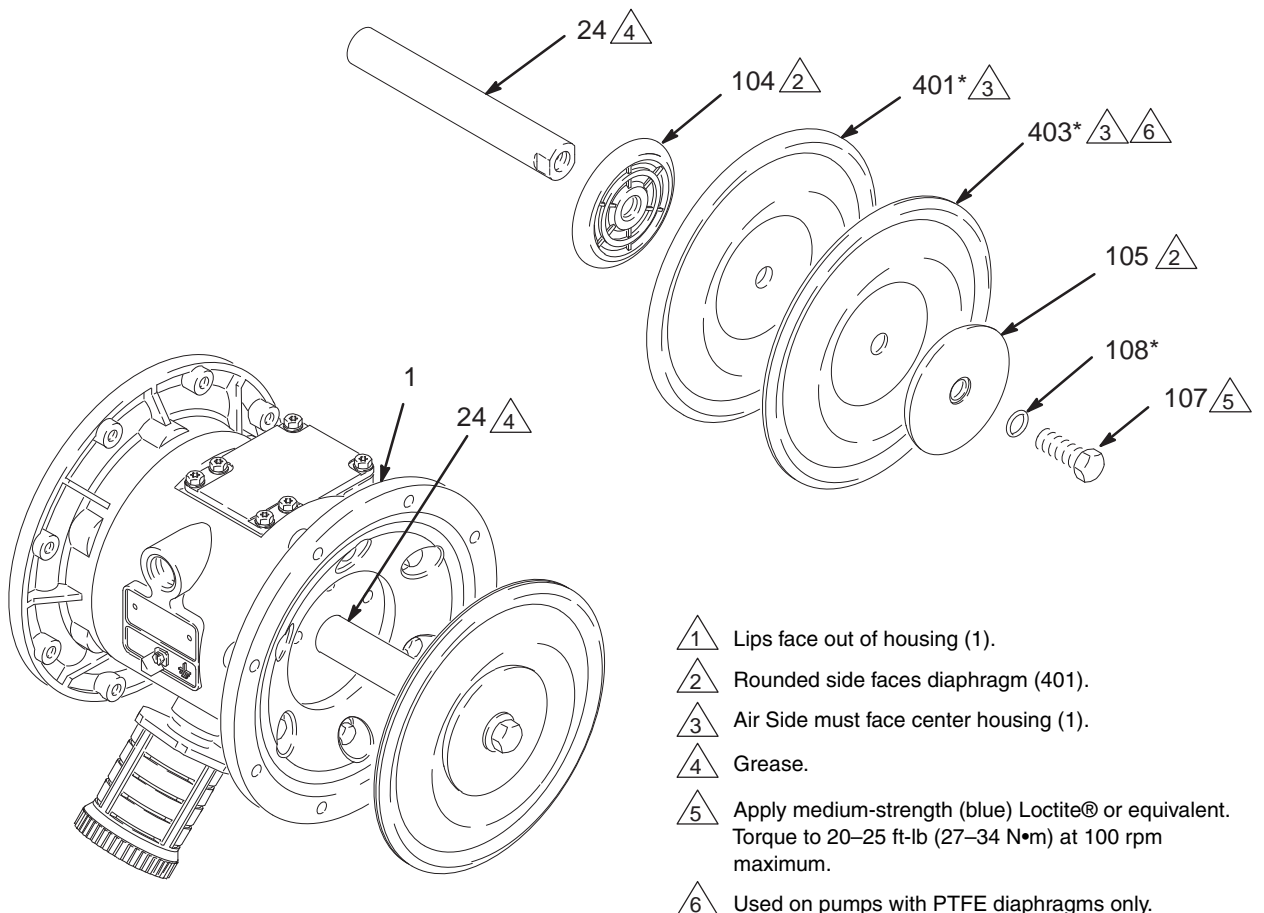

Fig. 14
4. Loosen but do not remove the diaphragm shaft bolts (107), using a 15 mm socket wrench (1" on stainless steel models) on both bolts. *NOTE: This step does not apply to pumps with overmolded diaphragms.*
5. Unscrew one bolt from the diaphragm shaft (24) and remove the o-ring (108), fluid side diaphragm plate (105), PTFE diaphragm (403, *used on PTFE models only*), diaphragm (401), and air side diaphragm plate (104). See Fig. 14.
1. Install the shaft u-cup packings (402*) so the lips face **out** of the housing (1). Lubricate the packings. See Fig. 14.
2. Install the diaphragm assembly on one end of the shaft (24) as follows. *For pumps with overmolded diaphragms, go directly to step g.*
- a. Install the o-ring (108*) on the shaft bolt (107).
- b. Install the fluid side diaphragm plate (105) on the bolt so the rounded side faces the diaphragm (401).
6. Remove the air cover gaskets (22). Always replace the gaskets with new ones.
7. Use a bearing puller to remove the diaphragm shaft bearings (19), air valve bearings (12) or pilot pin bearings (15). Do not remove undamaged bearings.
8. If you removed the diaphragm shaft bearings (19) reach into the center housing (1) with an o-ring pick and hook the u-cup packings (402), then pull them out of the housing. Inspect the packings. See Fig. 14.